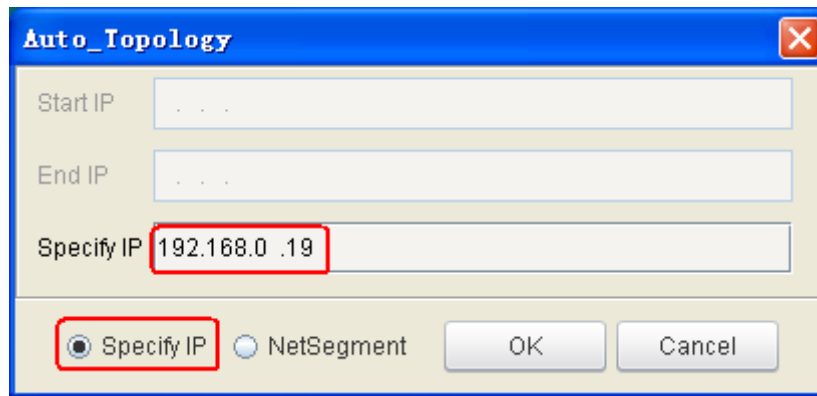

Figure 30 Specifying an IP Address for Auto-Topology
1. Click  in the topology toolbar. The Auto_Topology dialog box is displayed, as shown in Figure 30.